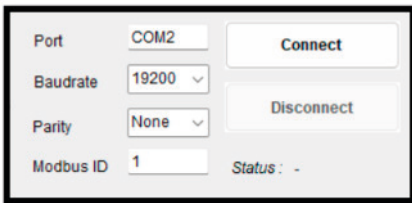

Figure 14
1. Select Modbus ID 1 in **Serial Port Setting** (Figure 14) at the top, as described in Chapter 2 (Configuration procedure).